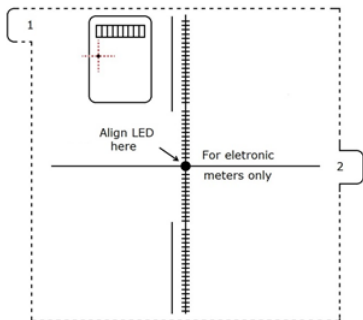

Fig.1
- a. Start by removing the template from the white background, by gently pulling slip 1 (Fig.1) on the left hand corner of the template.